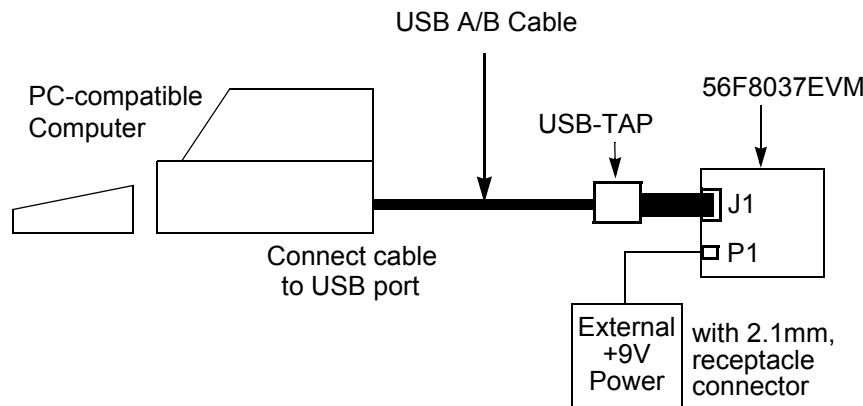

Figure 1-3. 56F8037EVM Cabling for External +9V Power
An interconnection diagram is shown in **Figure 1-3** for connecting the PC and a user-supplied external +9.0V DC power supply to the 56F8037EVM.
2. Connect the other end of the USB-TAP cable to the USB-TAP module. Connect the ribbon cable from the USB-TAP module to J1 on the 56F8037EVM, shown in Figure 1-3. This provides the connection which allows the host computer to control the board.
4. Connect the 2.1mm output power plug from the external power supply into P1 on the 56F8037EVM, shown in Figure 1-3.